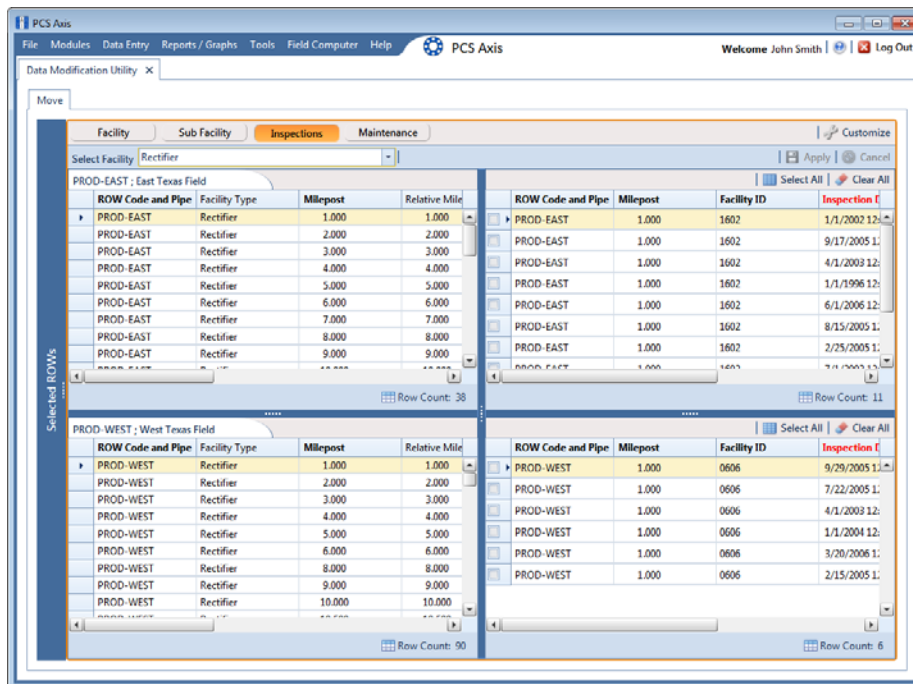

Figure 18-15. Inspections Move
- 4 Click the *Select ROWs* bar to close this panel (Figure 18-15).